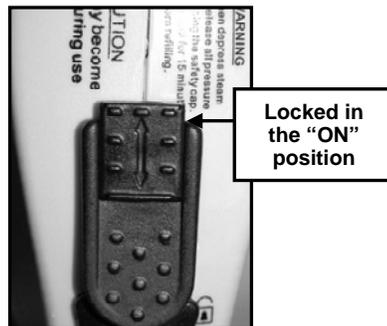

Fig. 3
**Important Note:** On the top of the trigger button, there is a slide that can be used to lock the trigger in the "ON" position. To engage it, depress the trigger button with your thumb and then slide your thumb forward. (Fig. 3) To release the lock and turn off the steam, press down on the slide and pull it back, then release the pressure on the trigger.